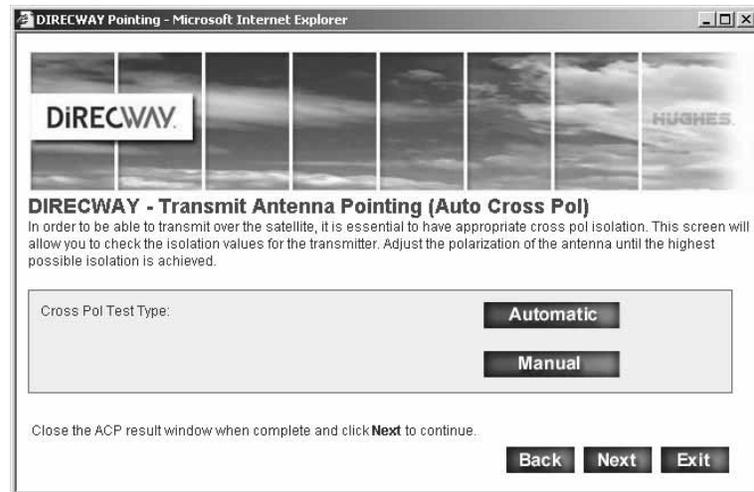

Figure 27: Executing a manual cross-polarization test
17. Click **Manual** on the Transmit Antenna Pointing screen shown in Figure 27 to initiate the manual cross-pol test.